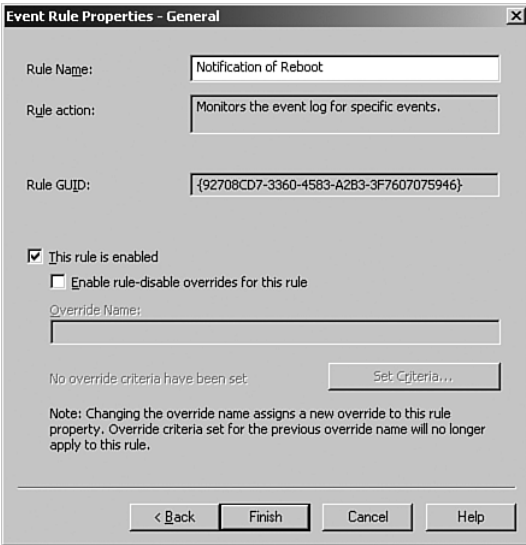

FIGURE 14.14 Naming the event rule.
8. The final step in the Rule Creation Wizard is naming the rule. Figure 14.14 shows the rule name screen for our example rule, which we have named Notification of Reboot. A rule’s Globally Unique Identifier (GUID) is created as part of the rule creation process. The GUID can be helpful when attempting to track down where an alert originated or finding events using large amounts of space within the MOM database. On this screen you can also enable/disable the rule or create an override for the rule, which we discuss in the next section of this chapter.